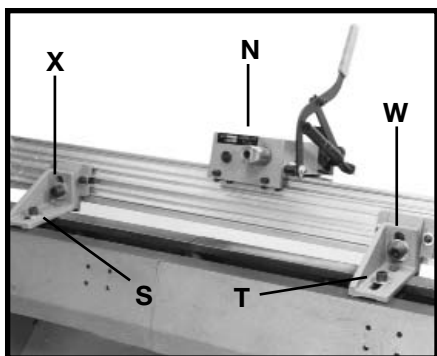
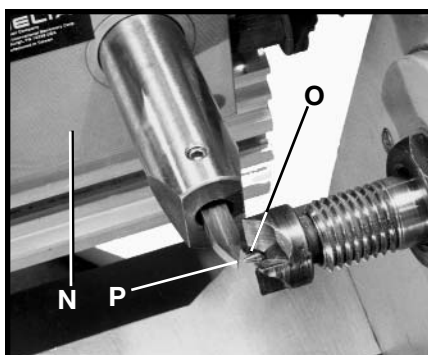
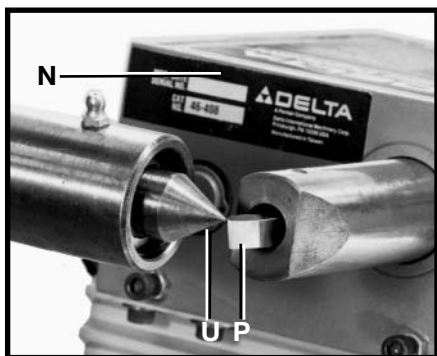
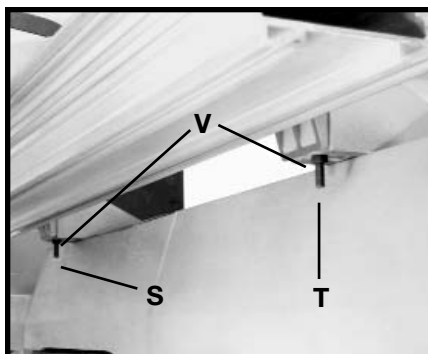

Fig. 60
Fig. 61
Fig. 62
Fig. 63
10. Move duplicator carriage (N) Fig. 60 to the left until the cutting tool is in the same plane as headstock center. Loosen two socket head bolts (S) and (T) Fig. 60, and slide duplicator in or out until point of cutting tool (P) Fig. 61 is aligned vertically (up or down) with point of headstock center (O). Snug-up socket head bolt (T) Fig. 60.
- A. Move duplicator carriage (N) Fig. 60 to the right until point of cutting tool (P) is in the same plane with point of tailstock center (U) Fig. 62. Slide duplicator in or out until point of cutting tool (P) is vertically on the same plane with point of tailstock center (U).
- B. Snug-up socket head bolts (T) Fig. 60. Recheck for alignment between the point of cutting tool vertically with the headstock and tailstock centers and tighten two socket head bolts (S) and (T) Fig. 60.
- C. Move carriage assembly (N) Fig. 60 to the headstock until the point of cutting tool (P) Fig. 61 is on the same plane (up or down) with headstock center (O) Fig. 60.
- D. If the point of cutting tool (P) Fig. 61 is above or below the headstock center (O), loosen socket head bolts (W) and (X) Fig. 60, and loosen locknuts (V) Fig. 63. Turn leveling screw (S) Fig. 60 clockwise or counter-clockwise to raise or lower cutting tool until the edge of cutting tool (P) Fig. 61 contacts headstock center (O).
- E. Move carriage assembly (N) Fig. 62 to the tailstock until the point of cutting tool (P) is on the same plane (up or down) with tailstock center (U).
- F. If the point of cutting tool (P) Fig. 62 is not contacting tailstock center (U), turn leveling screw (T) clockwise or counter-clockwise to raise or lower cutting tool until the edge of cutting tool (P) Fig. 62 contacts tailstock center (U).
- H. Firmly tighten locknuts (V) Fig. 63, and tighten bracket holding screws (W) and (X) Fig. 60.